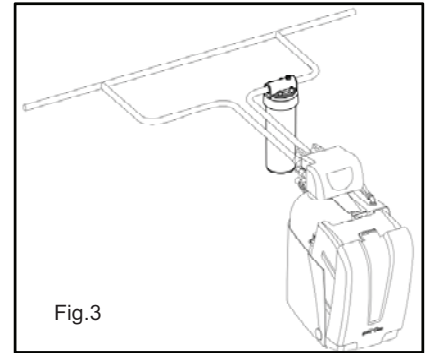

Fig.3
3. Install a sediment filter at the softener's entrance to protect the equipment from water impurities. (Fig. 3)